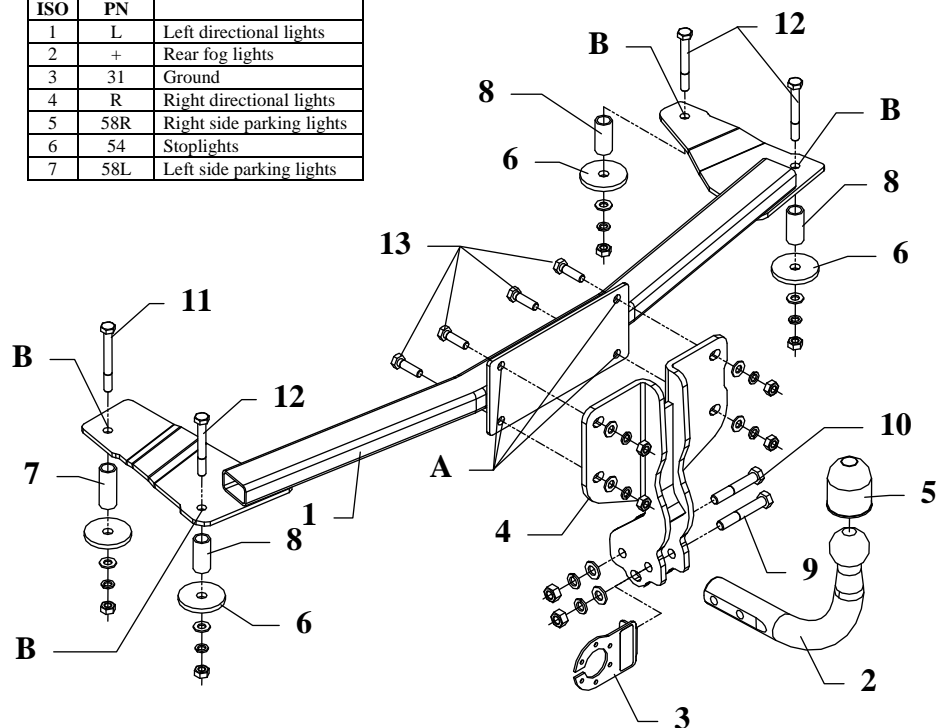

Fig. 1
4. Position the main bar of the towing hitch (pos. 1) in the trunk and fix it with the bracket (pos. 4) through the 4 drilled holes (pos. A) - use bolts M10x35mm (pos. 13).
5. Position the sleeves (pos. 7 and 8) properly at the bottom of the car, then fix it through the holes (pos. B) using suitable bolts M10x80mm (pos. 12) and M10x90mm (pos. 11) together with large washers (pos. 6) – see fig. 1.
6. Position the ball of towing hitch (pos. 2) with socket plate (pos. 3) and fix them with bolts M12x75mm (pos. 9) and M12x70mm (pos. 10) from the towing hitch accessories.